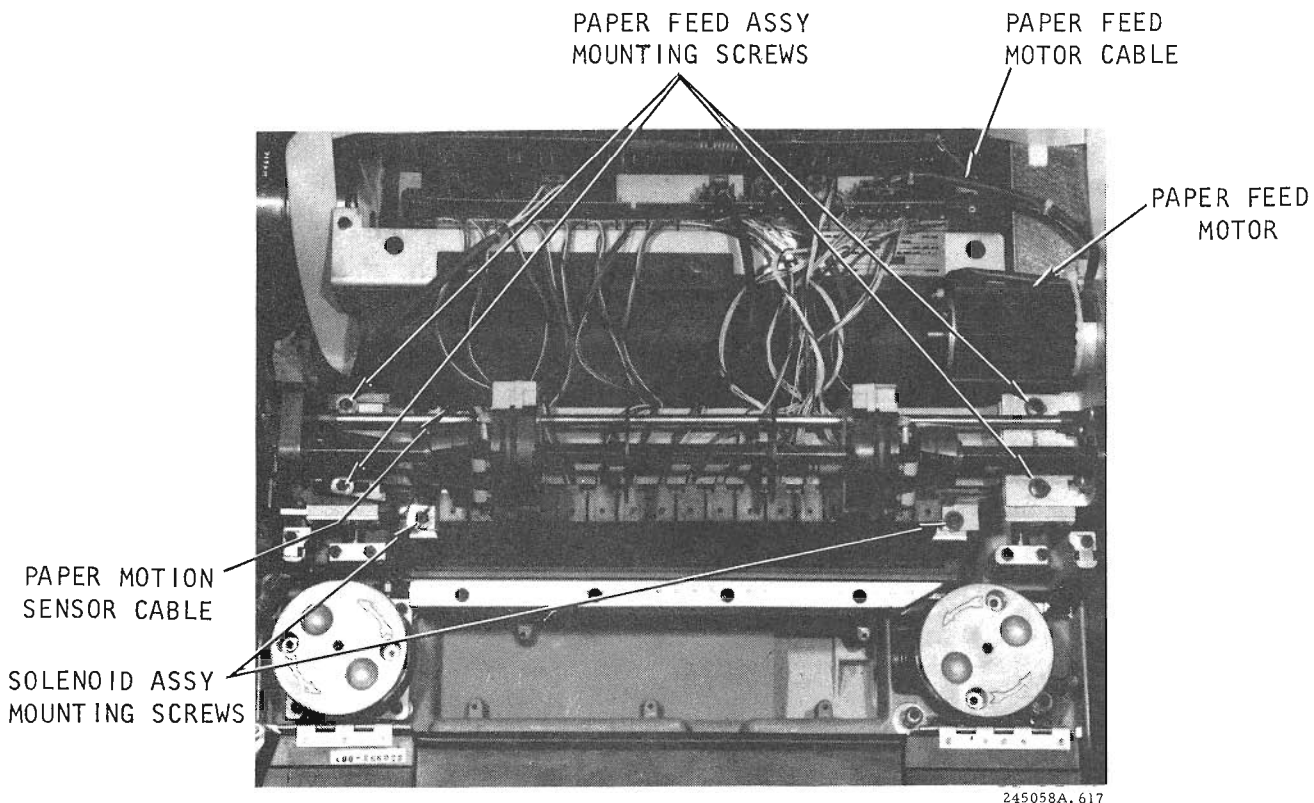

Figure 6-17. Solenoid Clamp Assembly
- e. Remove the four mounting screws securing the paper feed assembly (figure 6-17). Disconnect the paper feed motor cable, the paper motion sensor cable and unhook the hammer bank latch springs.
- g. Loosen the two solenoid assembly mounting screws (figure 6-17), disconnect the three solenoid cables from the power board and disconnect the paper out switch cable.